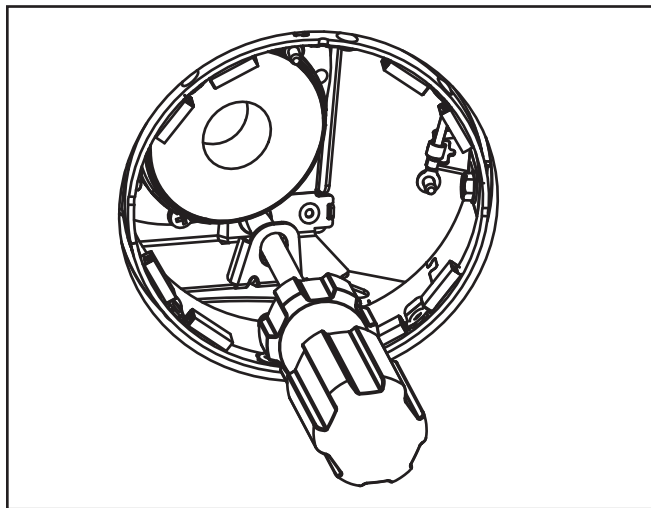

Figure 11
1. Insert Phillips screwdriver into tilting bracket (Figure 11). Unlock mechanism by turning the locking screw counterclockwise a few turns will loosen the brake. Tilt the mechanism to the desired tilting angle.
4. Note current fixture tilt angle and then tilt the mechanism 45° (figure 11)